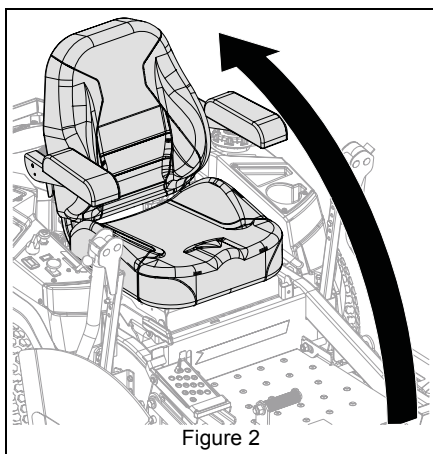

Figure 2
5. Return seat to operating position. See Figure 2.